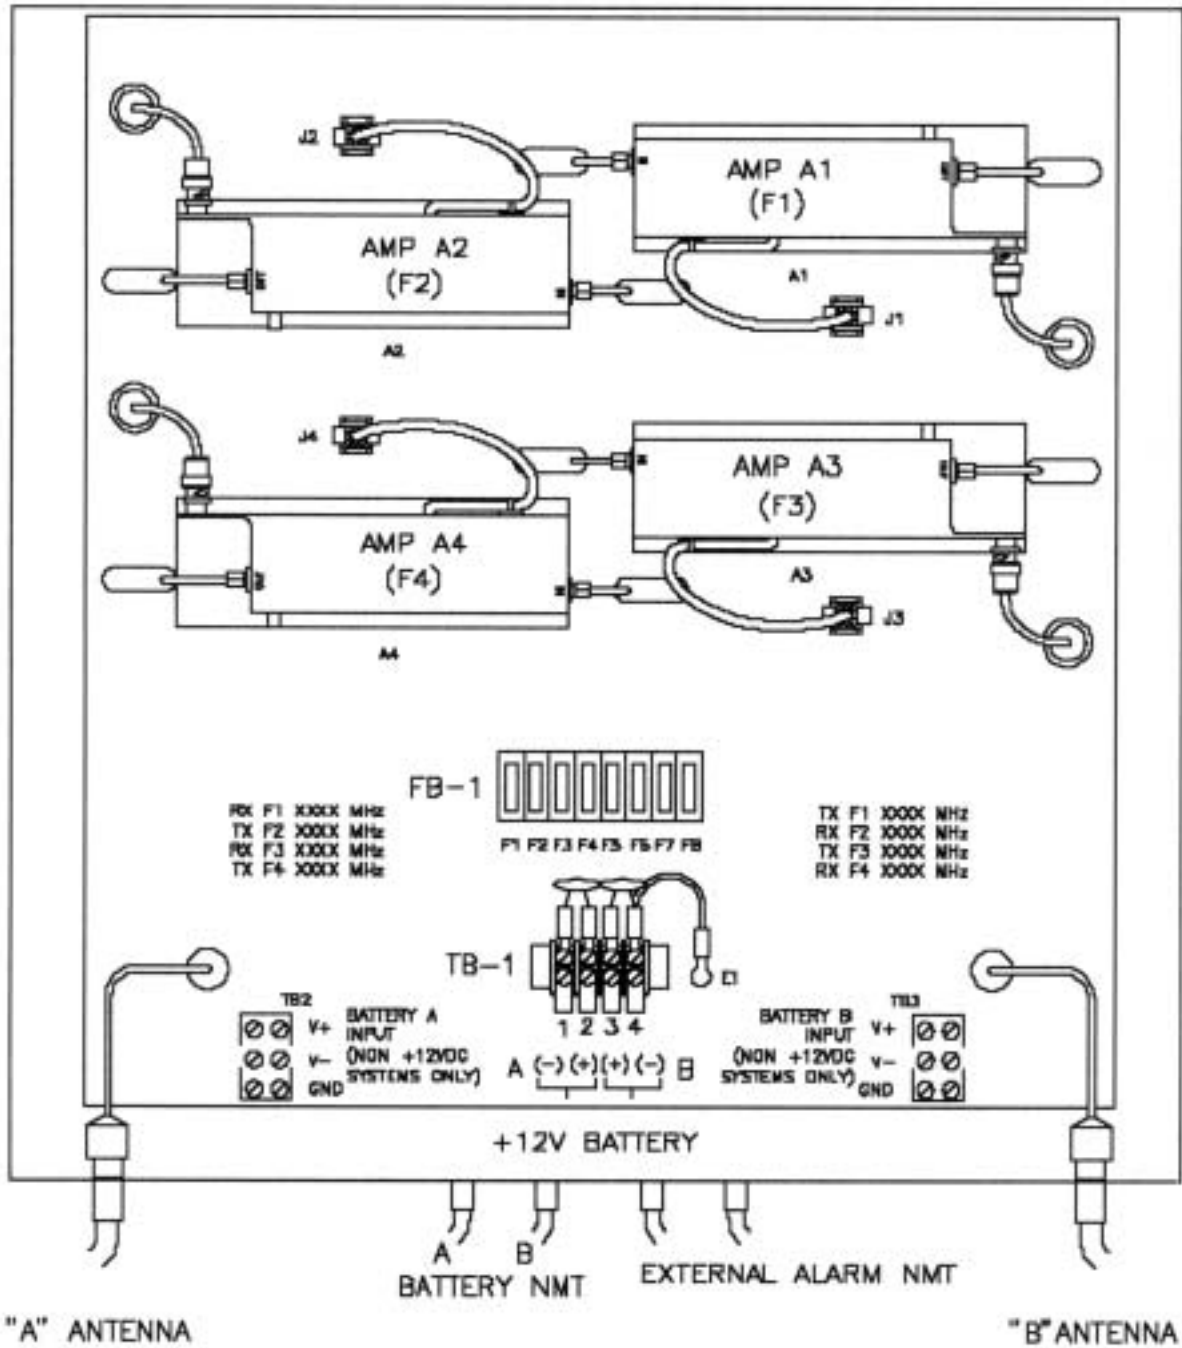

FIGURE 2.1
- The RF-1500E duplex repeater uses internally redundant amplifiers for transmission in each of two directions. Each amplifier is powered by two separate battery supplies for added reliability. Bandpass filters and circulators, which form a duplexer network, direct the received signals to the amplifiers and combine the amplifier outputs with the received signals to a common antenna port for transmission in each direction (see Figures 2.1~2.3).